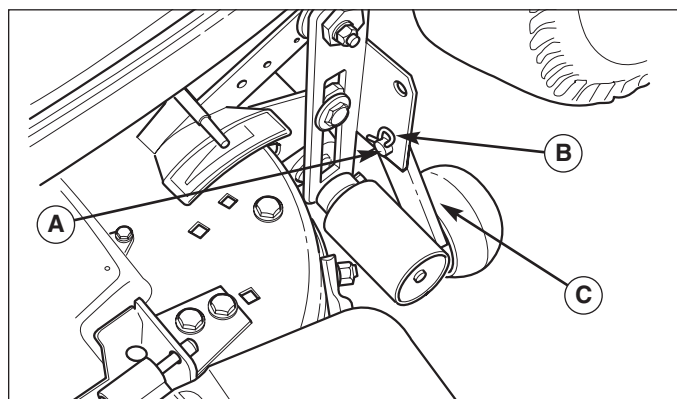

Figure 13. Rear Slide Wheel - 48" & 60" Mowers
6. Move the left rear slide wheel into slide position (see Figure 13).
17. *48" & 60" Mower Only:* Move the left rear slide wheel (Figure 13) into mowing position.